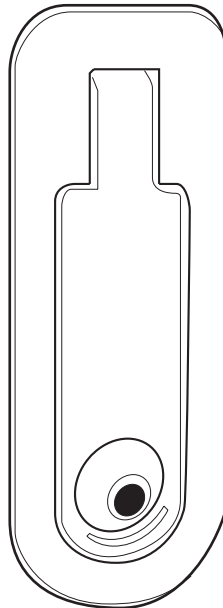

Figure 9. Latch in Closed Position
- 1 Release the lock by inserting the security tool (216-Type wrench) into the latch; and turn it counter-clockwise as shown in Figure 9.